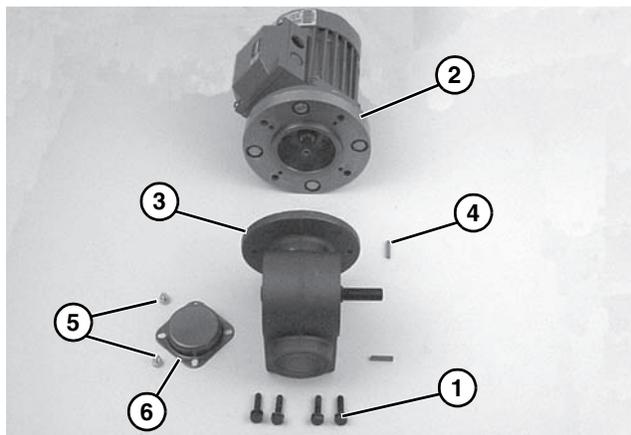

Figure 19
- Remove four screws (**Figure 19, item 1**). Detach motor (**Figure 19, item 2**) from gear reducer (**Figure 19, item 3**). Retain motor output shaft key (**Figure 19, item 4**).
- Remove two (2) screws (**Figure 19, item 5**) and detach output shaft cover (**Figure 19, item 6**).
- With key (**Figure 19, item 4**) in keyway, slide motor (**Figure 19, item 2**) and gear reducer (**Figure 19, item 3**) together. Install screws (**Figure 19, item 1**) and tighten.